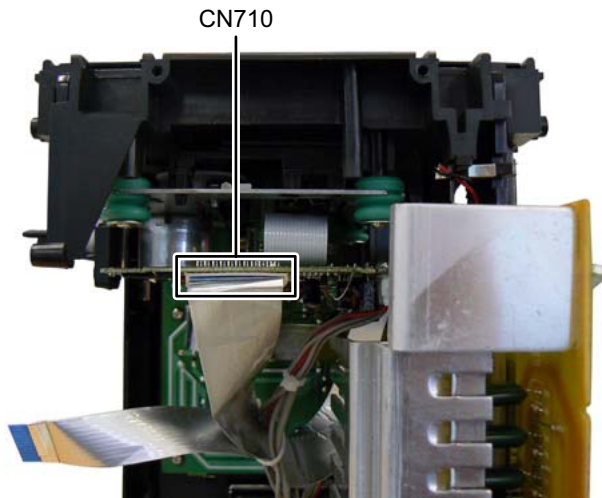

Fig.8
### 3.1.4 Removing the MAIN BOARD assembly (See Fig.8 to 11)
- (1) Disconnect the card wire from MAIN BOARD assembly connected to connector **CN710** of the CD BOARD assembly. (See Fig.8)